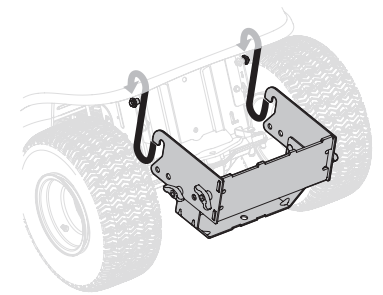

Figure 6
1. Place hooked ends of mounting assembly over shoulder bolts on LT-5 brackets previously installed on back of tractor frame, as shown in Figure 6, and line up hitch support bracket center hole with hole on the tractor's hitch.